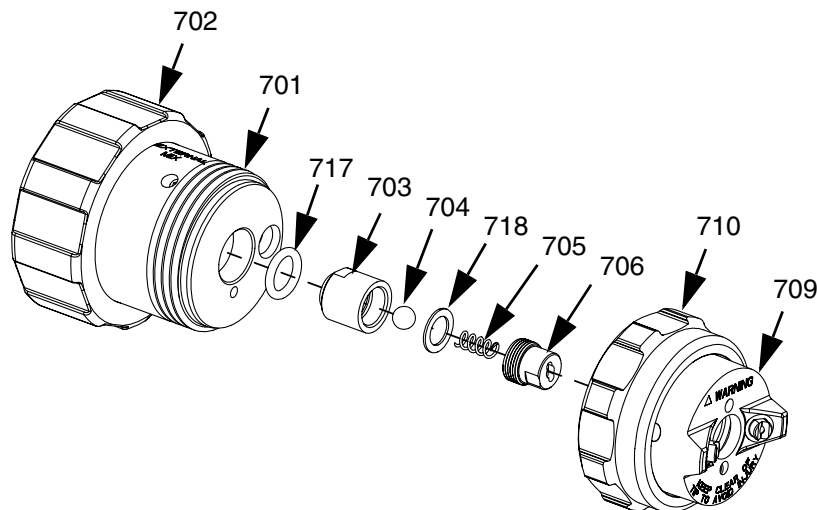

FIG. 16
2. Remove retaining ring (710) and air cap assembly (709) from head (701).
3. Remove check valve assembly (703).
4. Use two wrenches on flats of seal (703) and check valve cap (706) to remove cap. Spring (705) and ball (704) will fall out when cap is removed.
5. Remove and inspect o-ring (717) and washer (718). Replace if worn or damaged.
6. Lubricate o-ring and install onto check valve assembly (703).
7. Install washer (718), ball (704), and spring (705) into check valve seal (703) then install check valve cap (706) onto check valve seal finger-tight.
8. Use two wrenches on flats of seal (703) and check valve cap (706) to torque check valve cap onto check valve seal to 23-27 in-lb (2.6-3.1 N•m).
9. Install check valve assembly into head. See FIG. 16 for assembly orientation.
10. Install air cap onto head and tighten retaining ring (710).